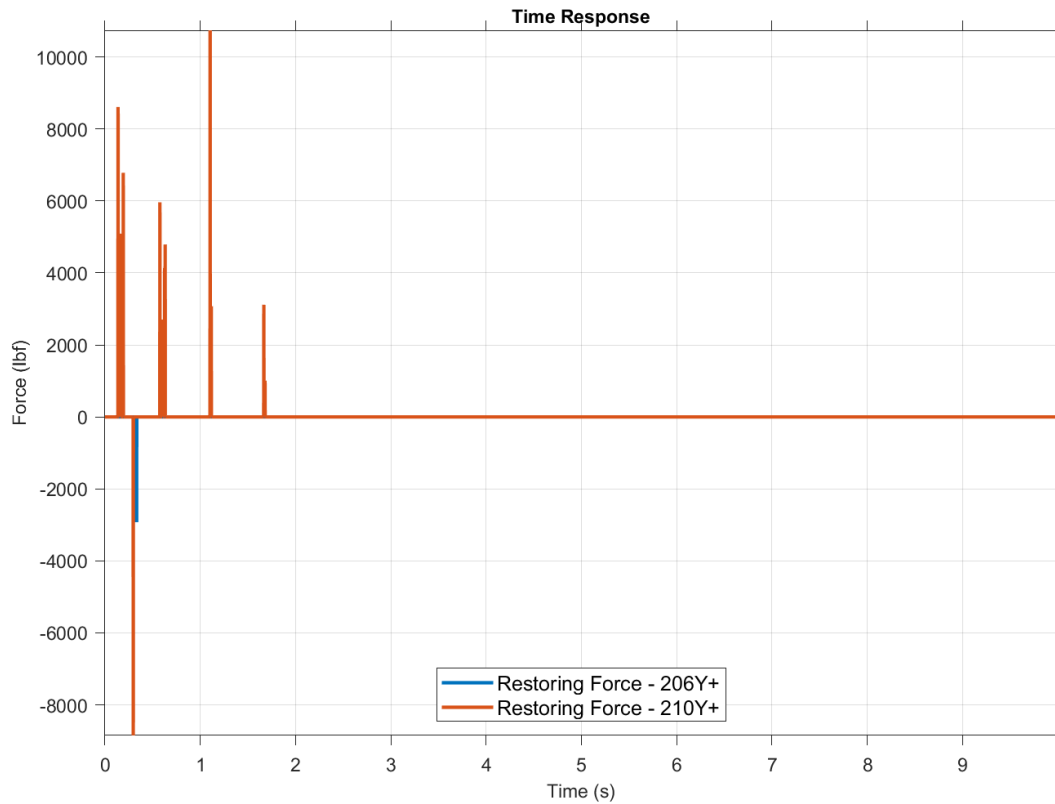

Figure 4-137. The restoring forces indicate the time ranges of the impacts.
12. Display the restoring force applied to the monitored limit DOF to determine the times and magnitudes of the impact forces for both limit DOF. Open the XY plot dialog by clicking the **Plot XY...** button. In the UIPLOT dialog, read in the restoring force function file "Displacement Limit_nonlinearForce.fcn" from the *File, Load File* menu. Plot both restoring forces. Figure 4-137 shows the restoring forces, which indicate five separate impact time ranges for DOF 210Y and one for DOF 206Y.